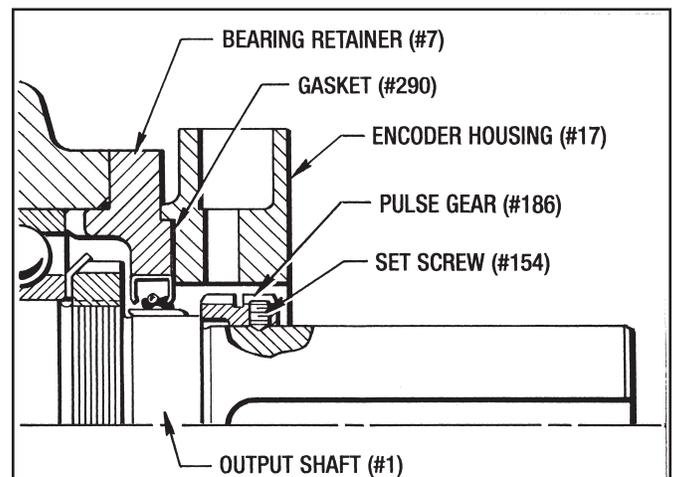

Figure 9.13 - Pulse Gear Alignment (#11 Posidyne)
1. Slide the Pulse Gear (#186) onto the output shaft. Align the Set Screw (#154) with the drilled hole in the output shaft. Position the Pulse Gear as shown in Figure 9.13. Tighten Set Screw (#154).